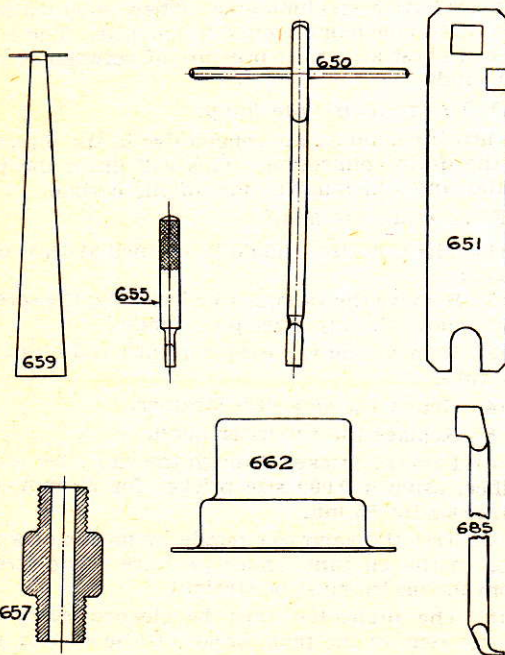

FIGURE 22-6.—Accessories and tools for 55 mm., type B, I. O. V. lamp.
(1) Fill the heating torch three-fourths full of alcohol. (See par. E below.)
(2) Remove the centering pin and revolve the return bend support until the torch is beneath the vaporizer tube.
(3) Light the torch and place heat retainer over the vaporizer.
(4) Allow the torch to burn from 8 to 10 minutes (until thumb cannot be held against the vaporizer tube just above the vaporizer nut) and open the discharge needle valve on the tank very slightly. A blue flame should appear on the flame screen.
(5) Remove and extinguish the heating torch (by using cap No. 916).
(6) Swing the bunsen tube under the vaporizer.
(7) Open the needle valve slowly until a good blue flame is obtained.
(8) Remove the heat retainer, install the mantle and adjust the flame.
(9) Clear the nozzle as necessary—use a 0.009 size prickler for 35-mm.—0.12 for 55-mm. (See fig. 22-6.)